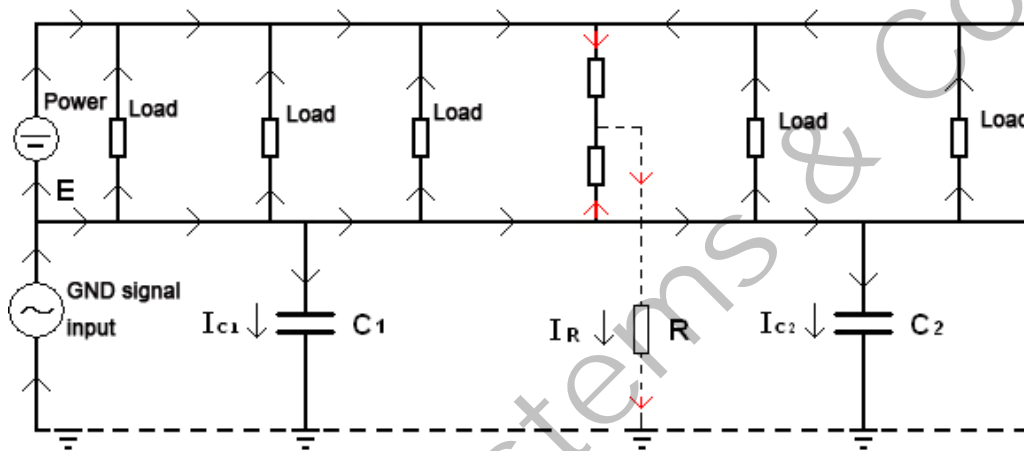

Fig 2.10.1.1
Distributed capacitance is very common phenomenon. Generally there is big distributed capacitance when circuit line is long and wiring structure is complicated in electric circuit. Even if circuit is insulated to the ground, there could be return circuit when signal generator injects current signal due to the existence of distributed capacitance. Fig 2.10.1.1 is one example. C1 and C2 are distributed capacitance before and after ground fault (R).